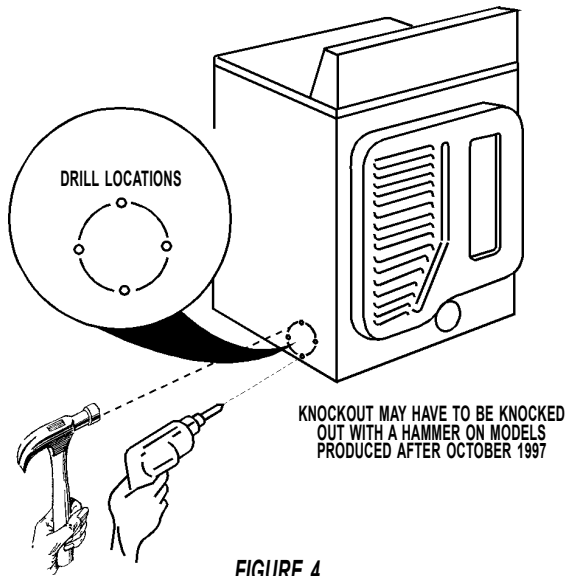

FIGURE 4
- Remove left or right side panel knockout by drilling four (4) 1/4" holes at the drill locations (dimples) shown. See Figure 4.